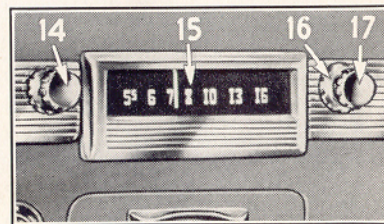

Figure 49
**OFF-ON AND VOLUME CONTROL**—To turn the receiver on, turn the volume control knob (17 Figure 49) on the right side, until a click is heard and the dial (15) is illuminated. To increase the volume, continue to turn the knob to the right. To shut off the receiver, turn control knob to the left until a click is heard.
**TONE CONTROL**—Tone control is regulated by the ring (16) behind the volume control knob. Turning this ring clockwise or counter-clockwise will change the tone.
**TUNING**—After the receiver is turned on, turn knob (14) to the right or left for best reception.